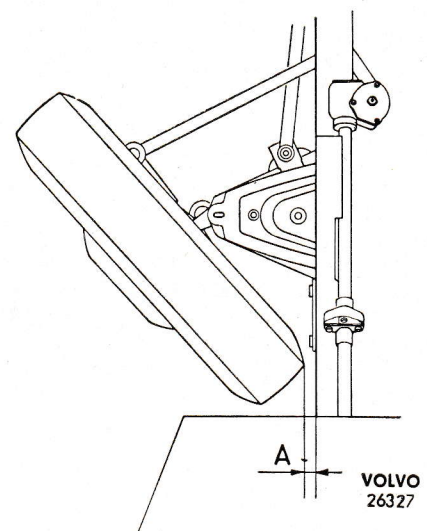

Fig. 45. Adjusting steering limits.
Turning is limited by the stop screw on the pitman arm and idler arm, (see Fig. 45).
1. Turn the left wheel for a left-hand turn as far as it goes. Check that the distance between the tyre and stabilizer (measurement A, Fig. 45) is 10—15 mm (25/64—19/32" ). If not, slacken the locknut for the idler arm stop screw, after which this is turned until the correct value is obtained. Then lock the stop screw.